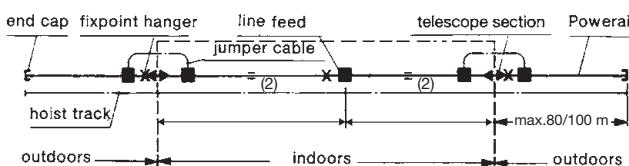

Fig.2
2. For passing the powerail from indoor to outdoor, thus preventing the icing of the outside mounted powerail, as the warm air can escape and does not condensate in the powerail (see Fig. 2). - Alternative solution: Anti-condensation section (see page 17). We recommend a heating system for the outdoor section for extreme winter conditions (see page 16).
In case of transfers to outdoor the main feed can be inside. In this case will be connecting boxes on the left and right hand side of the telescope section installed. This boxes are connected by flexible cables. (see fig. 2).